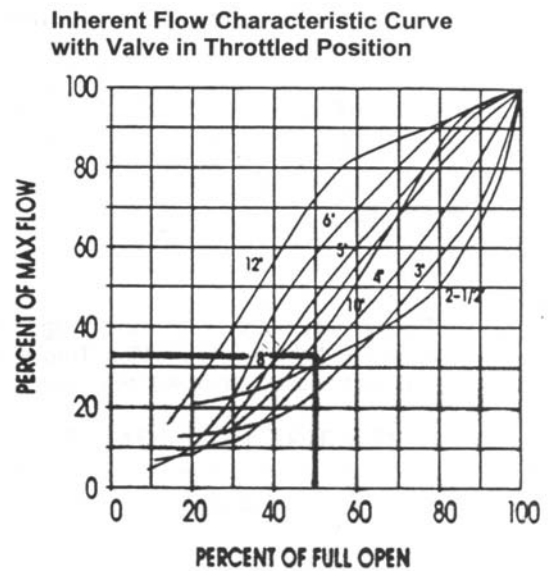

Fig. 3
6.3.3 Locate percentage of valve opening on the bottom scale of Flow Characteristic Curve (fig 3). Project line vertically up to intersects with the Valve Characteristic Curve and from this point project line horizontally across to the left of the chart and record the percentage of maximum flow rate.
From Flow Characteristic Curve (fig 3), a 4 inch valve 50% open, represents 34% of maximum flow.